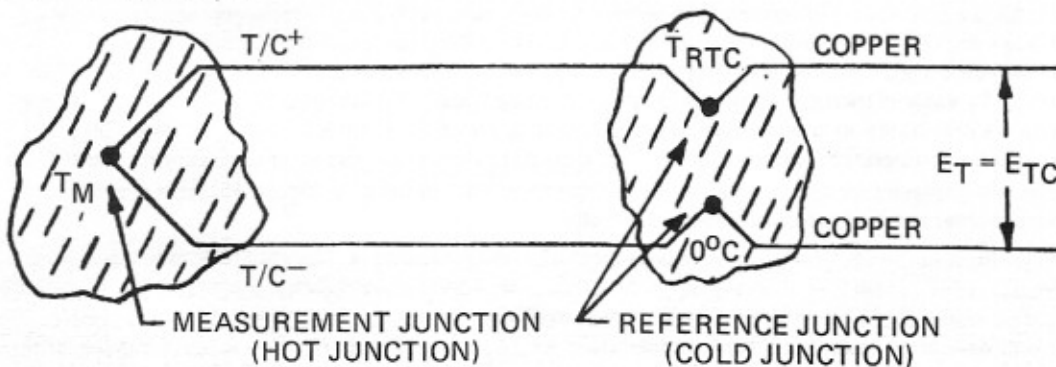

Figure 5-2. Standard Thermocouple Circuit
Each junction of two dissimilar metals is a thermocouple with a voltage versus temperature, or thermoelectric, relationship. Thus there are three (3) junctions in the circuit of Figure 5-2. The T/C + to T/C - measurement junction; the T/C + to copper reference junction; and, the T/C - to copper reference junction. Each junction generates a thermoelectric voltage versus temperature signal such that the resulting thermoelectric output from the thermoelectric circuit, E_{TC} , is the difference between the measurement junction signal and the reference junction signals when both reference junctions are maintained at the same temperature. That differential output will result in a zero millivolt output signal, E_{TC} , when the temperature of the measurement junction T_M , is equal to the temperature of the temperature reference junction, T_{RJC} . This is irrespective of whether the equal junction temperature occurs at 32°F, 70°F, or 212°F. Thus, $E_{TC} = 0$ if $T_M = T_{RJC}$.